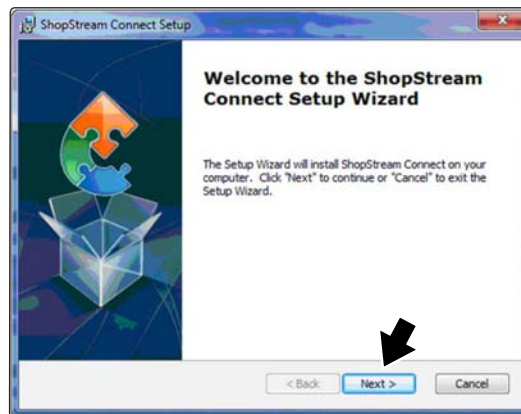

Figure 3-3 Typical Welcome screen
2. Select **Next** to begin the installation (Figure 3-3).